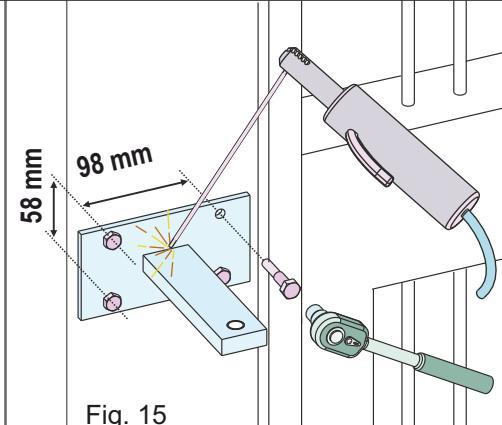

Fig. 15
- According to the opening (*inward or outward*) and to the choice of the leaf max. rotation, the bracket must first be cut by respecting the «a» dimension shown on chapters 5 or 6 and then welded - Fig. 15